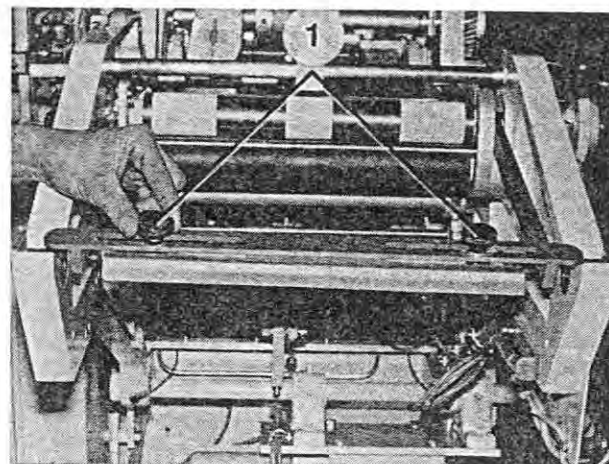

Fig. 167
6. Loosen the knurled nuts (Figure 167/1). Adjust the guide pins to the marks which correspond to the format and tighten the knurled nuts.